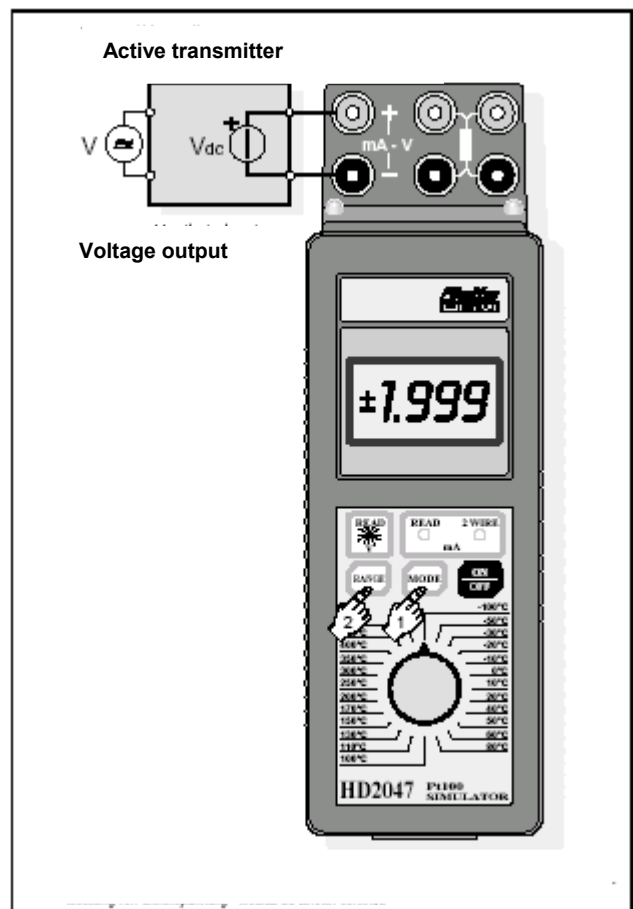

Fig. 1 . Continuous voltage measurement
Operating mode (see fig.1):
- connect the wires to the sockets, as shown in fig.1;